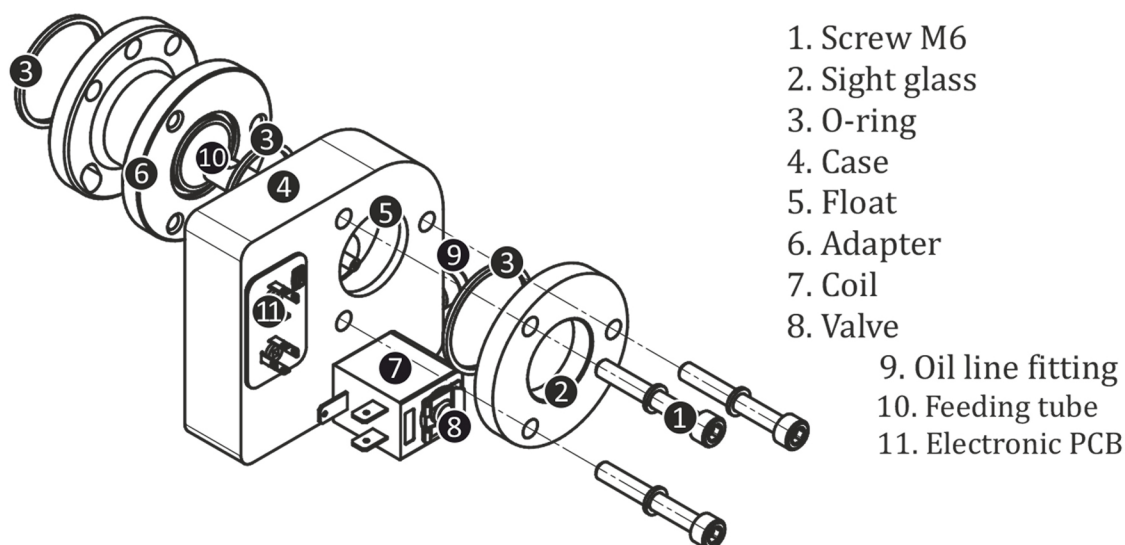

Fig.2. Assembly drawing
- Connect oil level regulator FP-ERL to compressor as shown in fig.2. If necessary use the original compressor's screws. Keep the sight glass screws strain level on 9Nm.